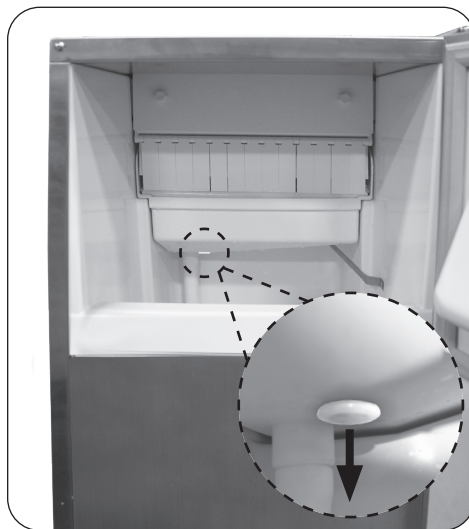

Fig. 14-2 Remove plug
5. Remove the plug from underneath the water container (see Fig. 14-2).